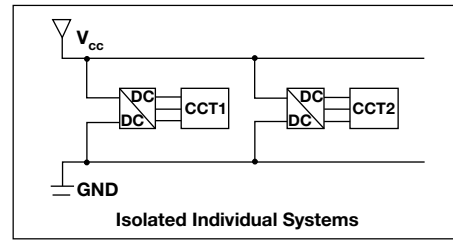

Fig. 10
- Isolate individual systems where possible (especially analog and digital systems) on both power supply and signal lines. (Fig. 10)